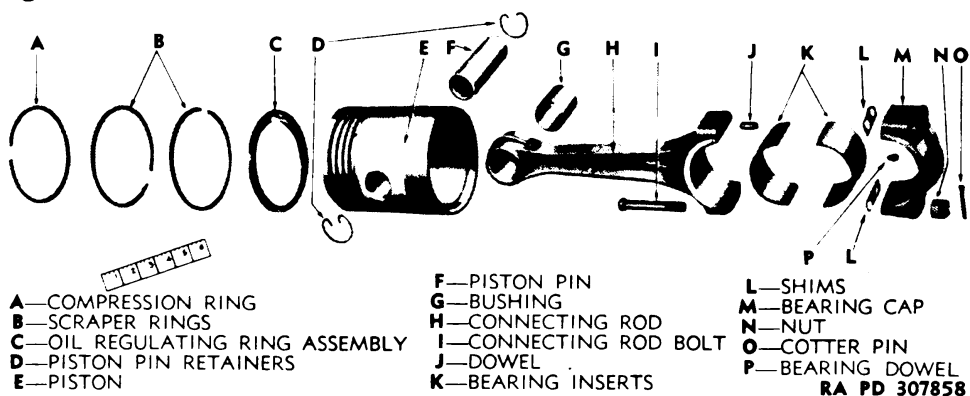

Figure 53 — Connecting Rod and Piston Assembly Disassembled
d. **Assemble Connecting Rods and Pistons (figs. 53 to 55).** Press new bushings into upper end of connecting rod if the old ones were removed, then ream bushings to allow from 0.0005- to 0.0013-inch clearance between piston pin and bushing. Heat piston by immersion in water heated to 100° F and press pin through piston and connecting rod. If fit of piston with pin is correct, a slight pressure will be necessary to press pin through piston. Install retainer snap rings in grooves of piston at each end of piston pin. Clamp connecting rod in vise for installation of piston rings. Measure rings for correct gap by placing each ring in the cylinder in which the piston
d. Install Pistons and Connecting Rod Assemblies. Lubricate piston rings and ring grooves in piston with light engine oil and stagger ring gaps around piston. Remove connecting rod bearing cap and shims (if any) from lower end of connecting rod (keep shims so they will be installed on side from which they were removed). Use piston ring compressor to compress rings in piston and lower connecting rod and piston through cylinder from top with numbered side of rod towards camshaft side of engine. Tap or push piston down through cylinder with wood block or hammer handle. Install upper half of bearing shell in connecting rod with tang of insert registering with notch in connecting rod (refer to fig. 53) and lubricate bearing with light engine oil. Bring rod and bearing down onto crankshaft, then place lower half of bearing shell in cap and install shims (place three shims of 0.002-inch thickness on each side) and cap on bolts in connecting rod with numbered side of cap towards numbered side of rod. Adjust running fit of each connecting rod bearing by addition or removal of an equal thickness of shims from each side. This clearance can be measured by placing a very small piece of solder on bearing,